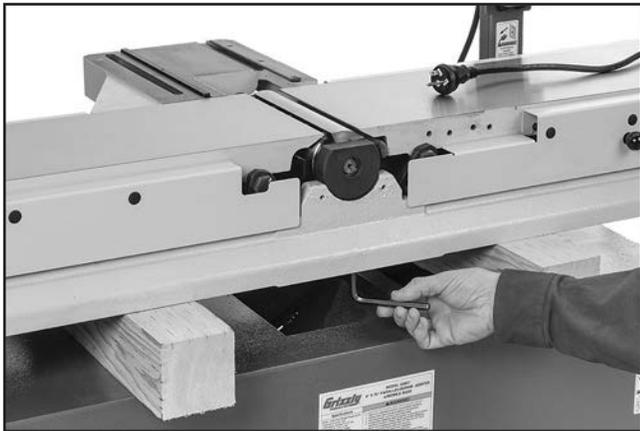

Figure 4. Removing cap screw and lock washer on bearing block.
- Remove cap screws and lock washers that secure both bearing blocks (see **Figure 4**).